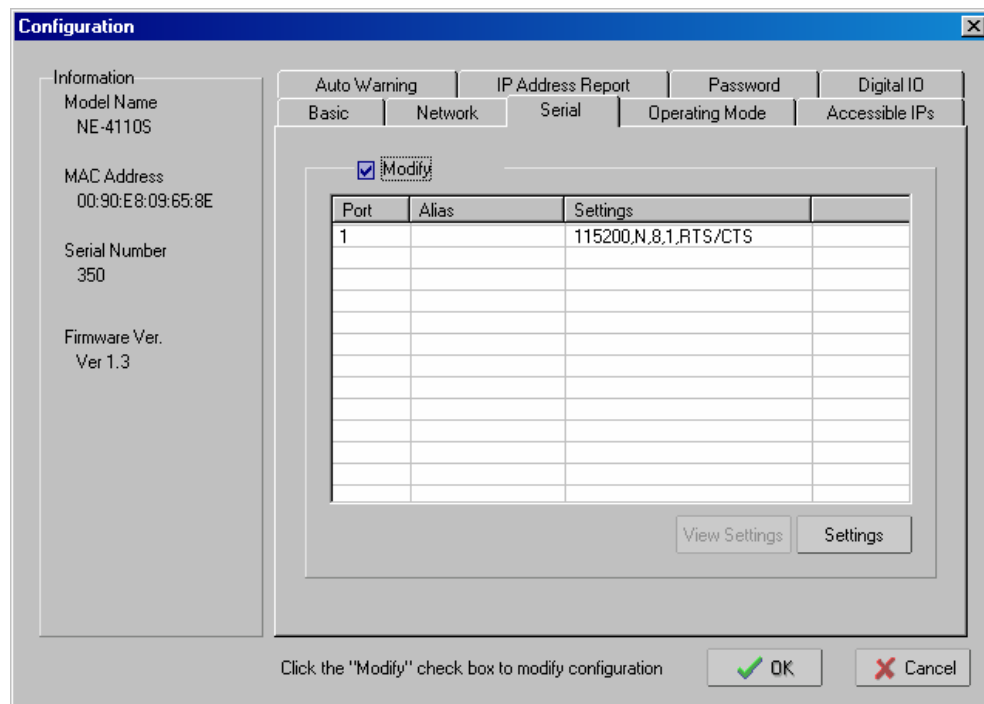

Figure A2-4 Serial Configuration
11. In the Serial Settings tab set the port as shown in **Figure A2-4**. These are the default settings of the radio.